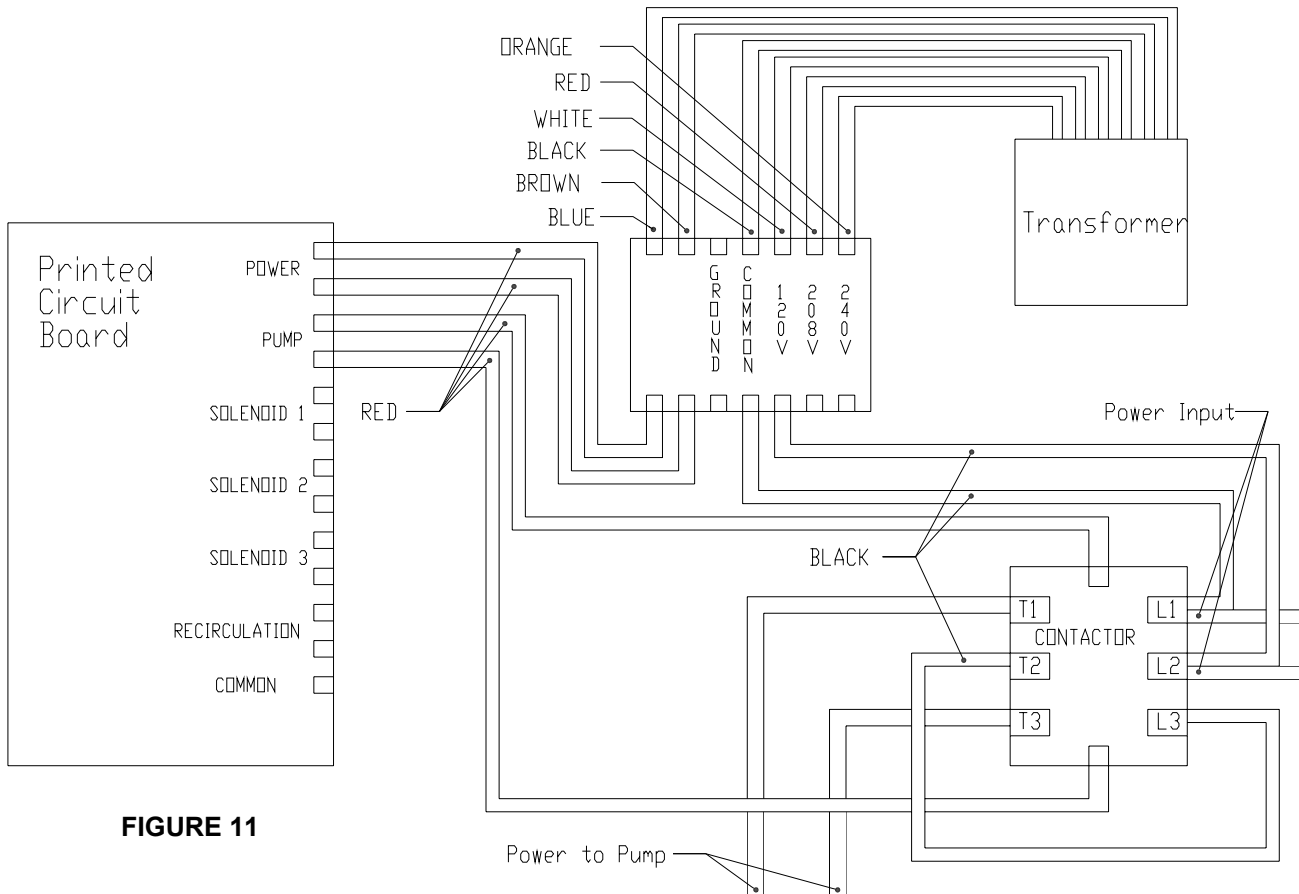

FIGURE 11
1. **FIGURE 11** shows the internal wiring for the WetDek AquaDirector Controller. The WetDek controller is manufactured to handle 120V input; this diagram shows how to install the standard configuration for 120V power. **Please read this section carefully to prevent damage to the circuit board.** All circuit boards are tested twice before they leave our shop to insure that they are operational. **A blown circuit board is not covered under warranty.**